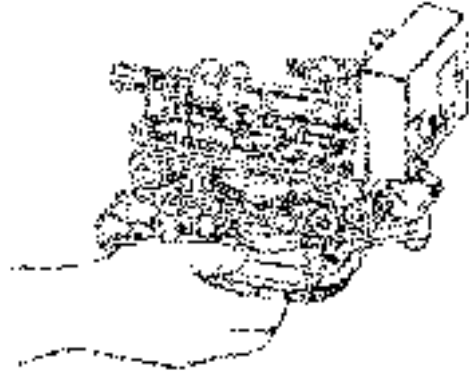

Figure 17
5. Apply downward hand pressure on control and pull locking bar out (Figure17).